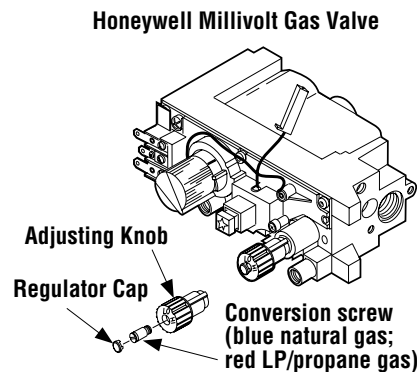

Figure 62
a. Convert the gas valve as follows (see **Figure 62**):